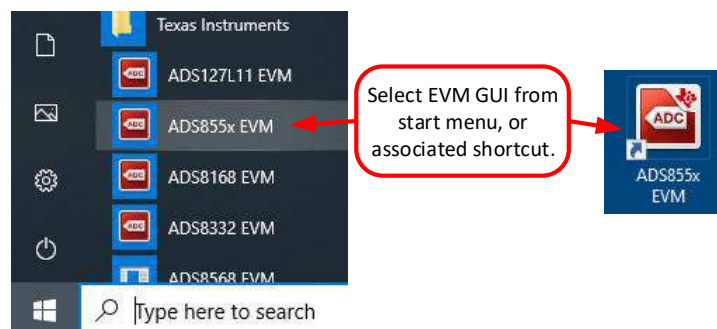

Figure 6-2. Launch the EVM GUI Software
4. As shown in Figure 6-2, start the software GUI. Notice that the LEDs blink slowly when the FPGA firmware is loaded on the PHI. This process takes a few seconds, afterwards the AVDD and DVDD power supplies turn on.
3. Connect the EVM and start the GUI as described in Figure 6-2.